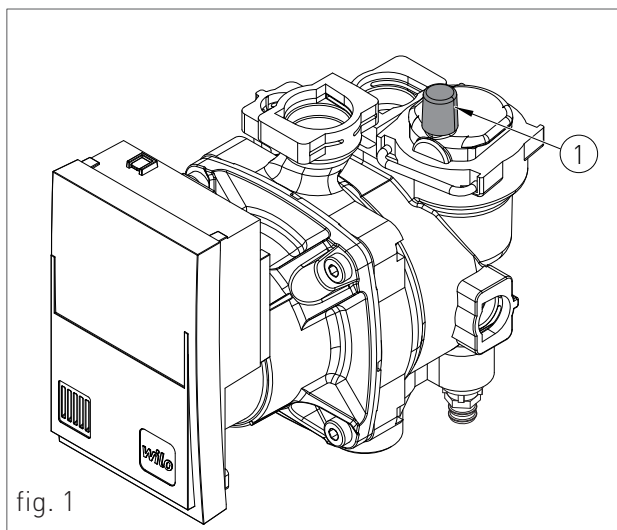

fig. 1
1. slightly loosen the cap of the circulator jolly valve (1-fig. 1) to release the air from the system;